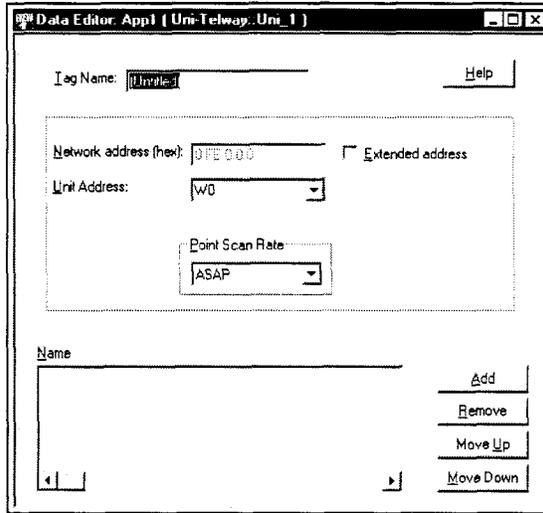

Figure 4. Uni-Telway Data Point Configuration Form
2. Double-click on the driver name for which you want to configure tag names. The Uni-Telway data point configuration form opens, as shown in Figure 4.